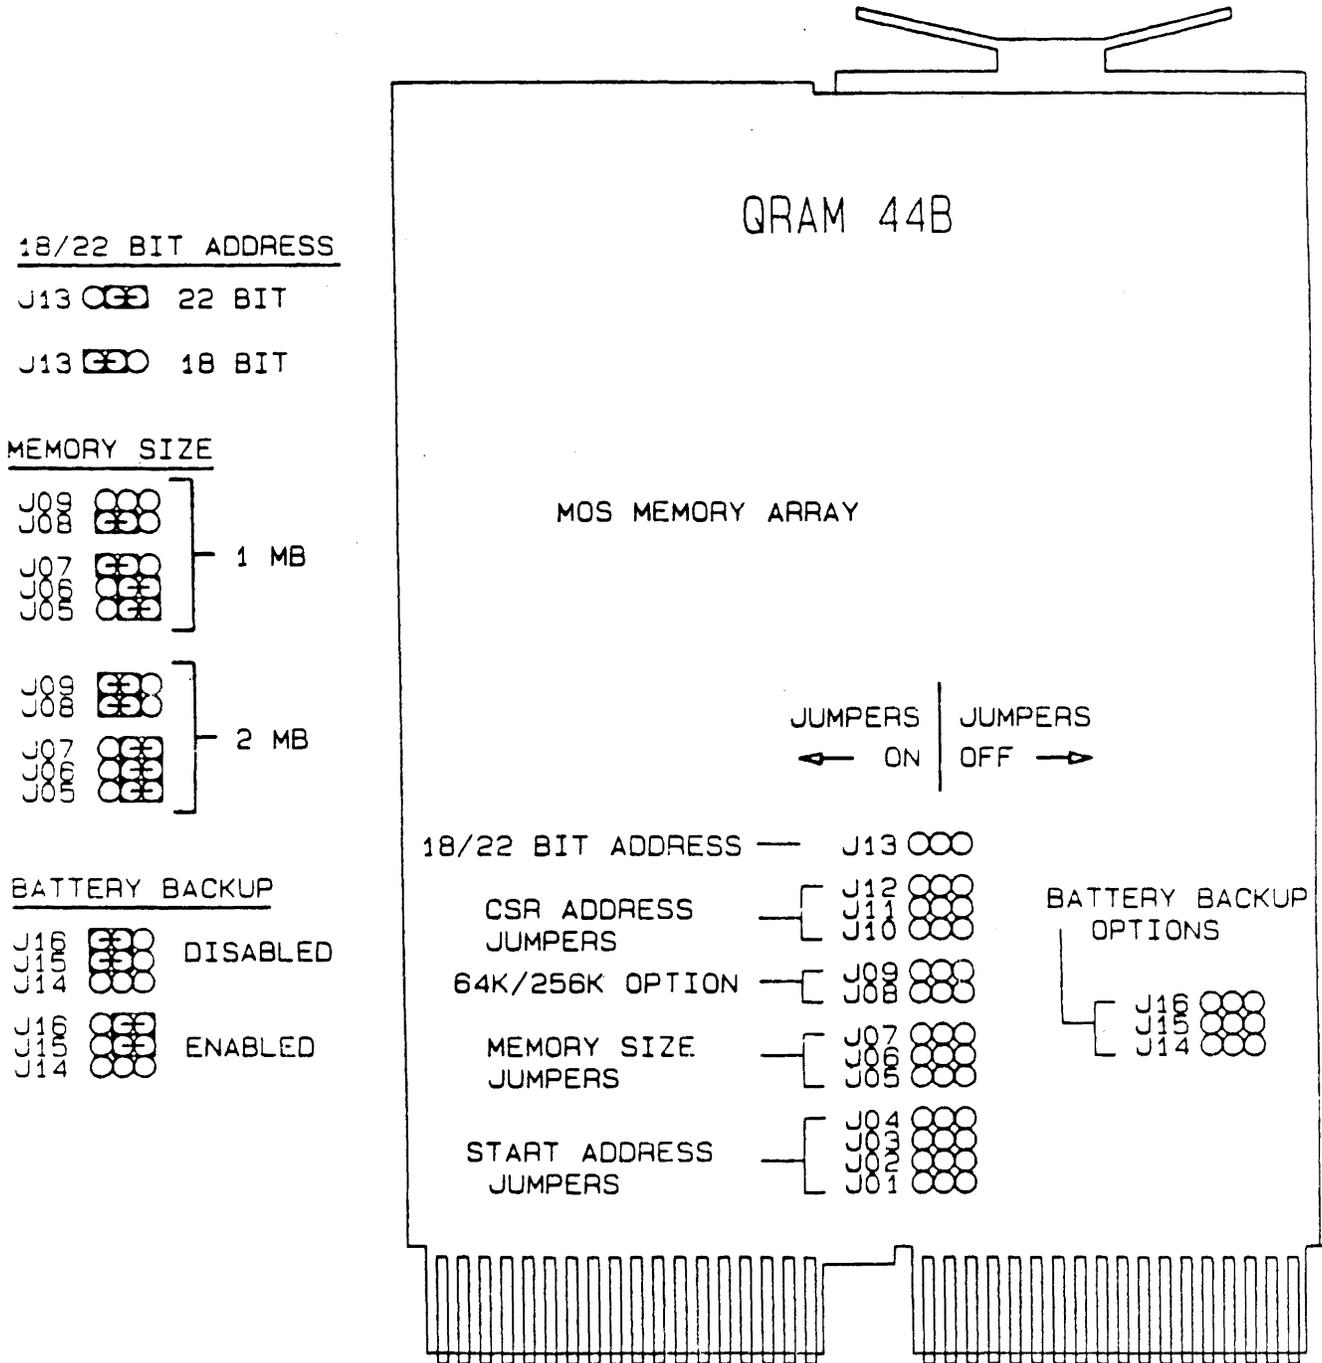

FIGURE 2 Q-RAM 44B PROGRAM PLUG DESCRIPTION
1.3.2 FIGURE 2 - Q-RAM 44B PROGRAM PLUG DESCRIPTION
Table 2 contains backplane power pins required for Q-RAM 44B. Table 3 designates pins used for other signals. Board finger designations shown in figure 2 are equivalent to backplane pin designations.
Figure 2 provides the locations of the various Q-RAM 44B option jumpers and Figure 1 illustrates how they are used. The module should be inspected prior to installation to assure that it has been properly configured. Sections 2.3 through 2.6 describe the various Q-RAM 44B program plug options.